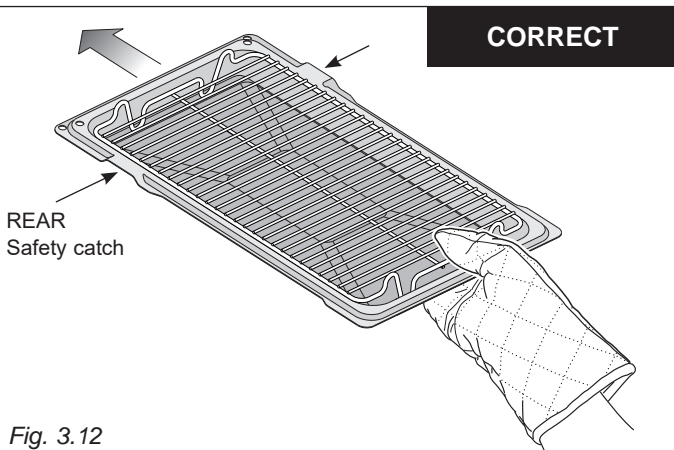

Fig. 3.12
- Introduce the grill-pan (tray + grid) (figs. 3.10 - 3.12) in the oven and insert it on the second or third level from the top (fig. 3.9). The grill-pan (tray + grid) must be fitted so that the safety catch (fig. 3.12), which stops it sliding out, faces the inside of the oven.